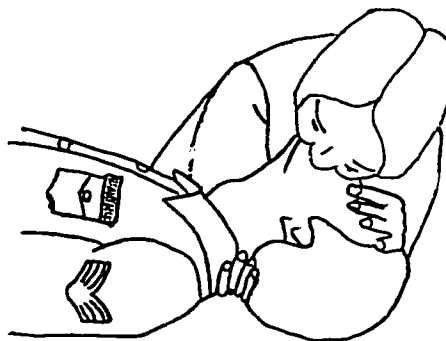

Figure 3. Apply Mouth-to-Mouth Respiration
4. Take a deep breath and open your mouth wide. Seal your mouth around the casualty's mouth and blow forcefully (except for infants and small children) into his or her mouth until you see the chest rise, see Figure 3. If the chest does not rise check to make sure the victim's neck is hyper-extended and try again while making sure there is no air leakage around the mouth or nose.